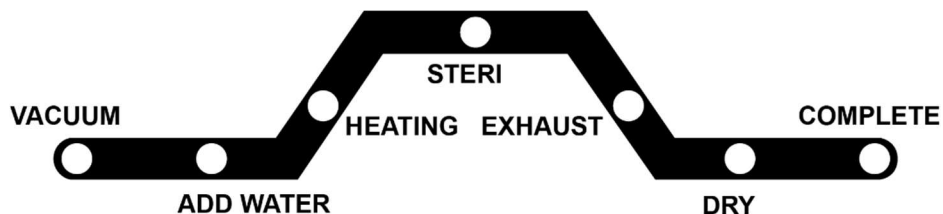

Figure 29
- D. Press the “ START ” button . The sterilization temperature, sterilization time, and drying time will be displayed two times consecutively, and then the sterilizer will run the selected program automatically. The program execution status will be displayed on the status indicator, as shown in Figure 29.